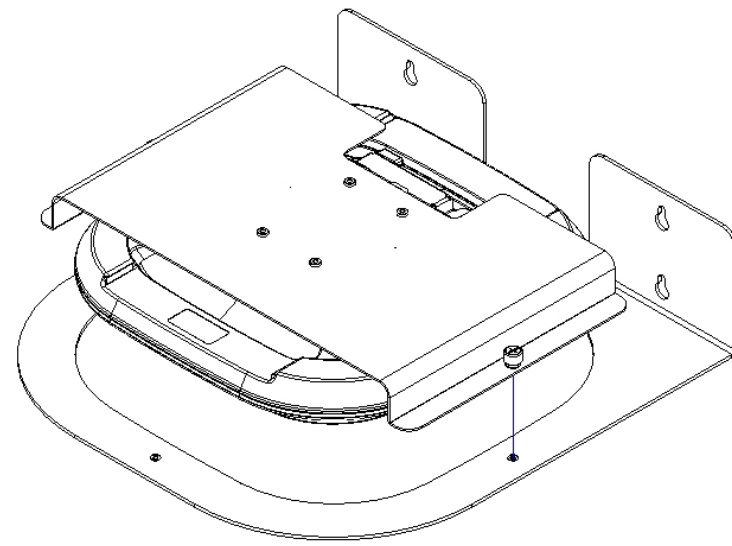

Figure 4
Step 8 – Align the *Oberon access point mounting bracket/Cisco access point assembly* so that the Ethernet cable is facing the wall. Attach the *access point assembly* to the *Oberon right angle wall mount* that was previously installed by placing the threaded studs on the *access point assembly* over the holes of the *Oberon right angle wall mount* (Ref. figure 4).